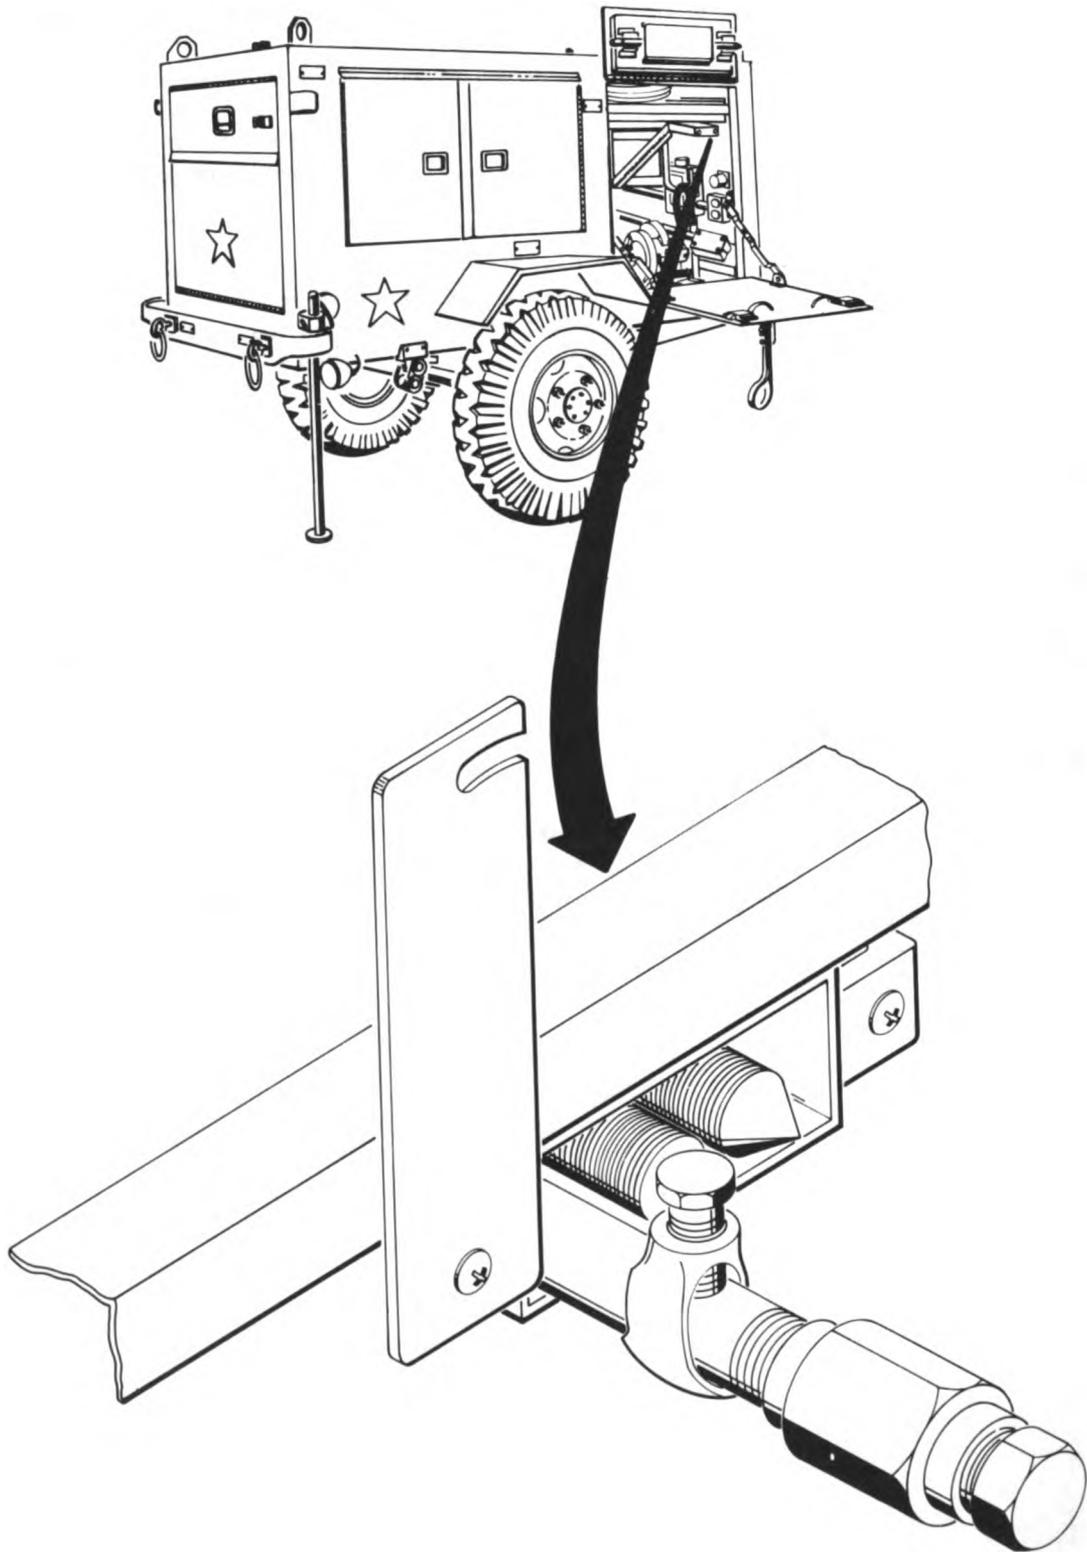

Figure 1-28. Ground Stakes Storage Compartment.
- 1-11. Electrical Power Connection.** The main power supply cable is 50 feet long. It is stowed in the forward right-hand compartment of the trailer. This compartment also has a storage box for the ground stakes (figure 1-28).